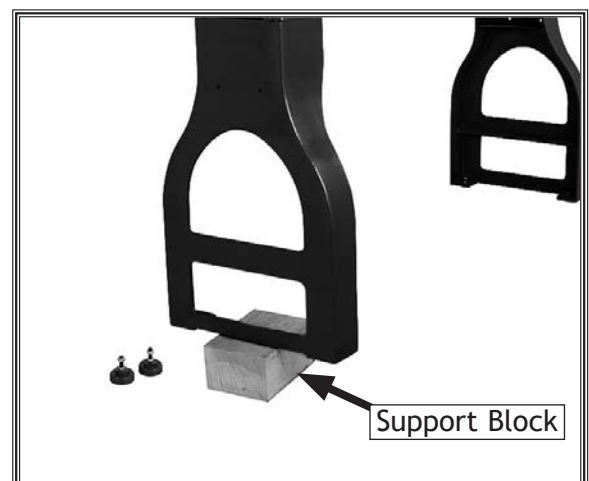

Figure 12. Leg supported for feet installation.
5. Use assistants to lift one end of lathe onto support block and stabilize lathe in preparation for installing machine feet (see **Figure 12**).